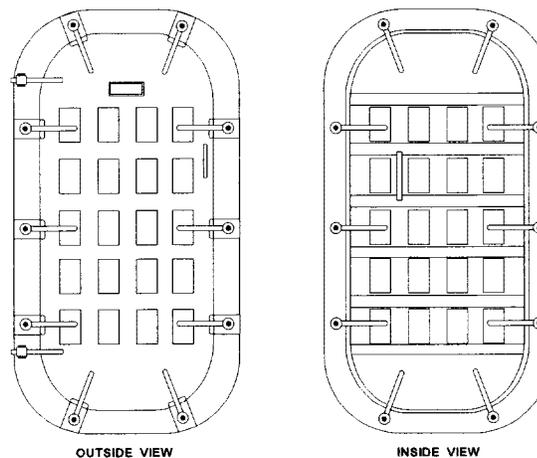

Figure 1-1. Individually Dogged Watertight Door
- a. Individually Dogged Watertight Doors. (See figure 1-1.) These doors are either 4-, 6-, 8-, 10-, or 12-dogged and watertight. These doors provide access/egress to compartments that are not high usage spaces and which do not require rapid access such as paint lockers, deck gear lockers, or storerooms. The 10-dog doors are usually found below the V-lines in order to maintain a higher degree of watertight integrity.